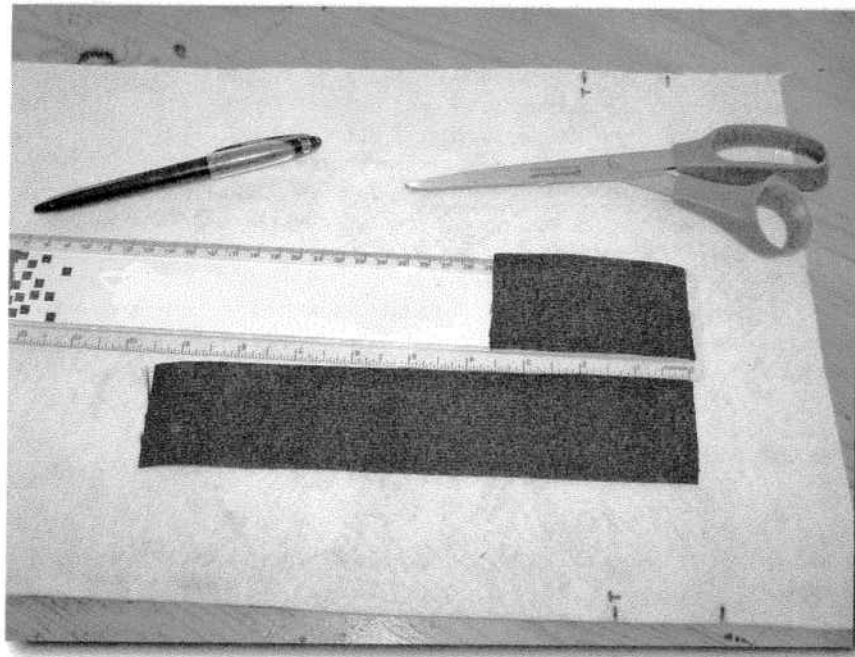

FIGURE 7-16: Appropriate lengths of fabric (see Step 1 in the next subsection on how to measure these properly).
- Elastic strips of appropriate length (see Figure 7-16)
- Vinyl or other fabric (replace the word *vinyl* with whatever material you use—black vinyl went best with my car's seats), with cloth backing for friction (see Figure 7-16)